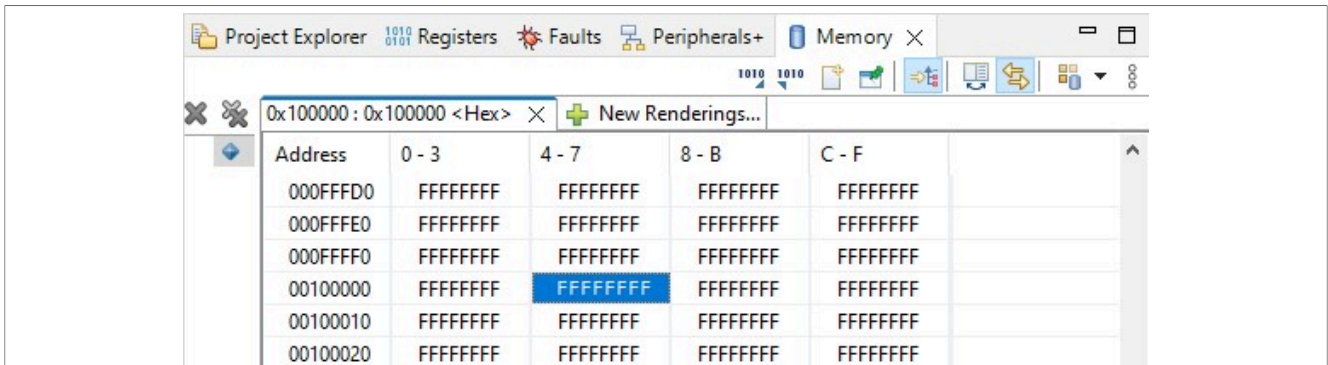

Figure 27. Sector erased in memory viewer
23. After completing the erase sector command, on **Memory->0x10000: 0x10000 <Hex>** tab, we must find FFFFFFFF and continues until 0x102000, which means one sector of flash has been erased, see Figure 27 and Figure 28.